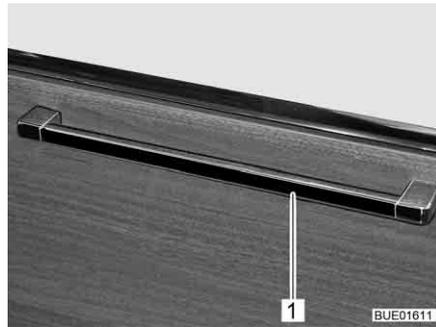

Fig. 43 Furniture flap with release handle
- Press the release handle (Fig. 43,1) upwards, to the side or downwards depending on the fitted position and hold it down.